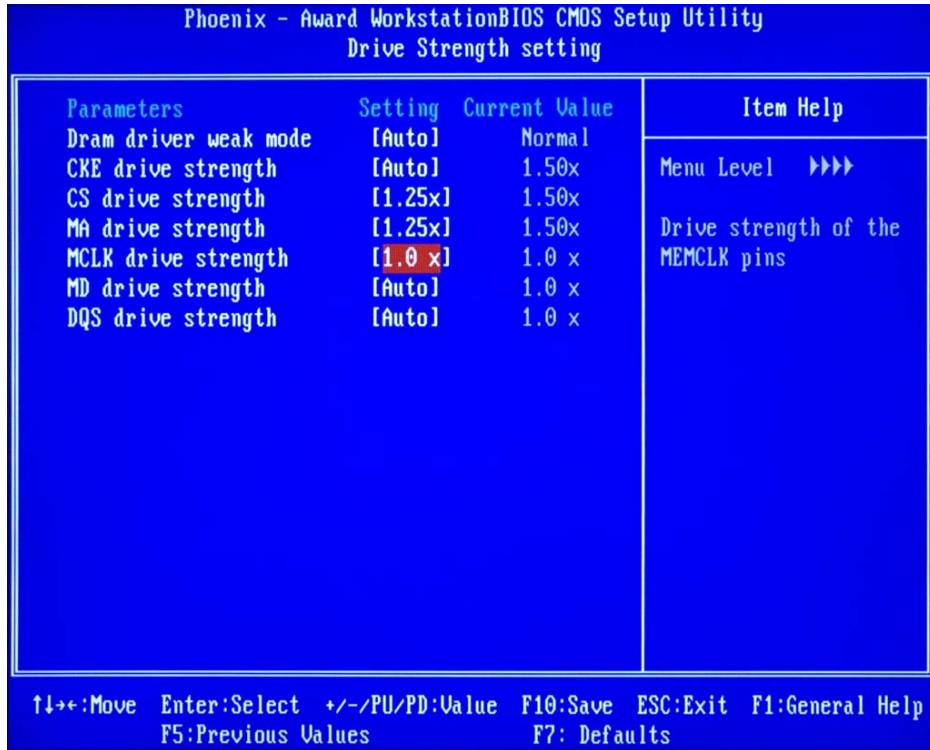

Figure 14. BIOS Drive Strength Setting for Memory Overclocking
- Go to the **Driver Strength Settings** BIOS menu shown in Figure 14.